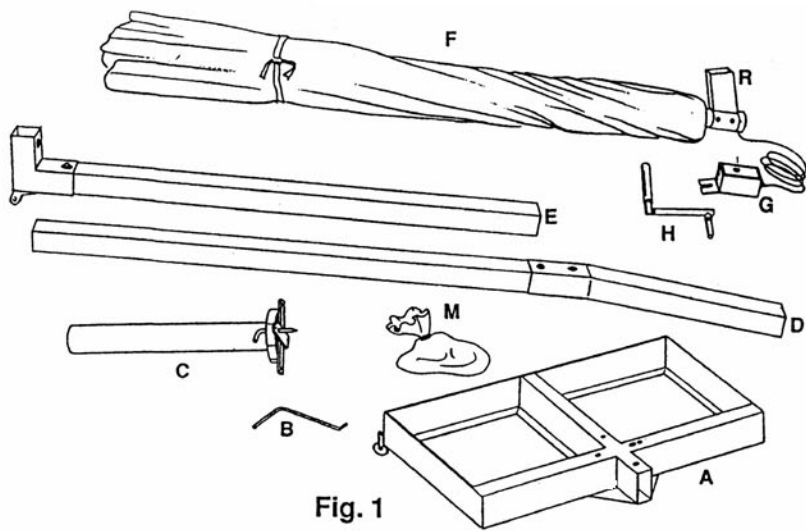

Fig. 1
**COMPONENTS** (fig. 1): A: base - B: hook - C: base tube - D: vertical pole - E: cantilever pole - F: umbrella - G: winch - H: handle - I: clamps